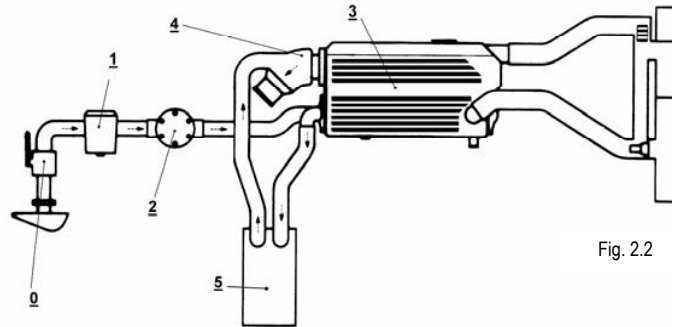

Fig. 2.2
2.2.2 "SEAWATER" COOLINGCIRCUIT (Fig. 2.2)
See the picture fig. 2.2